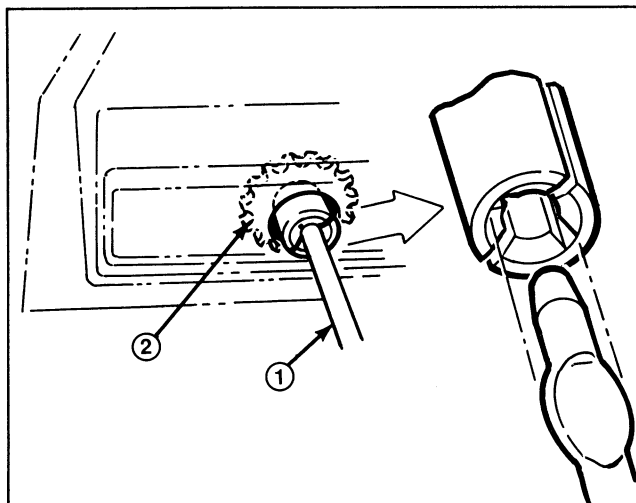

Figure 3
2. Secure deflector to discharge chute with (2) 5/16–18 UNC carriage bolts, metal washers, and locknuts. Make sure the square shoulders on the carriage bolts align with inside square on discharge chute. Position metal washers to the outside of deflector as shown in Figure 3. **DO NOT OVERTIGHTEN BOLTS.**